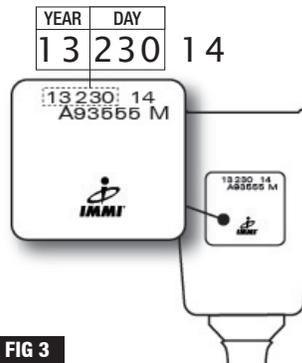

FIG 3
3. Find the buckle assembly date code on the back housing of the buckle. (FIG 3 and 4)
4. There are 2 different date code formats as illustrated below. (FIG 3 and 4)